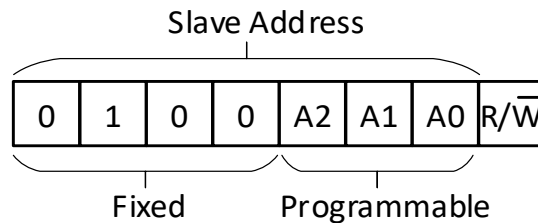
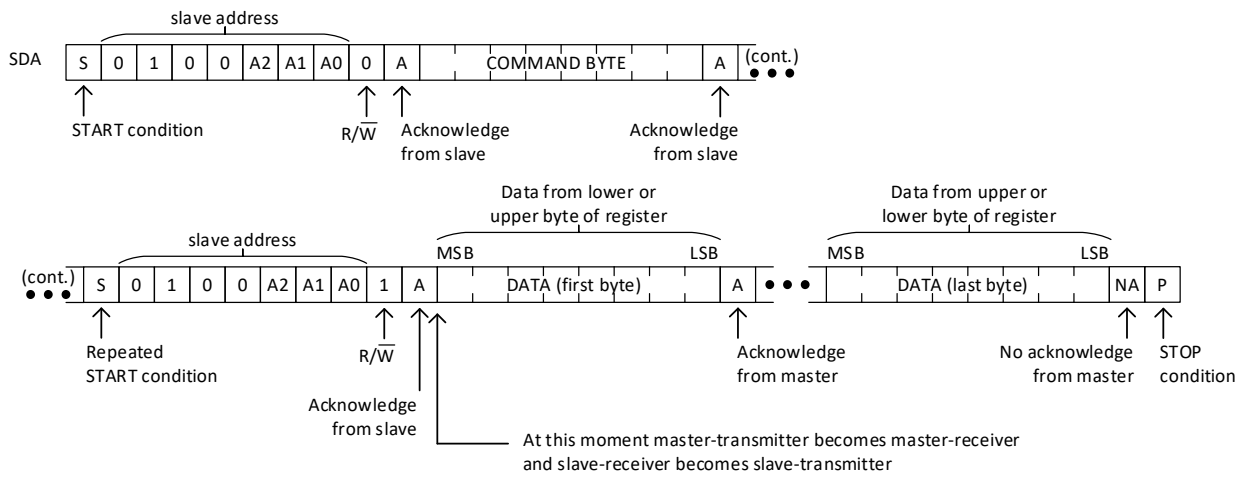

Figure 7-7. NCA9555B device address
Figure 7-11. Read from registers
Figure 7-7 shows the address byte of the NCA9555B. The last bit of the target address defines the operation (read or write) to be performed. A HIGH (1) selects a read operation, while a LOW (0) selects a write operation.
Data is transmitted to the NCA9555B by sending the device address and setting the least significant bit to a logic 0 (see Figure 7-7). The command byte is sent after the address and determines which register will receive the data following the command byte.
In order to read data from the NCA9555B, the bus master must first send the NCA9555B address with the least significant bit set to a logic 0 (see Figure 7-7). The command byte is sent after the address and determines which register will be accessed. After a restart, the device address is sent again, but this time the least significant bit is set to a logic 1. Data from the register defined by the command byte will then be sent by the NCA9555B (see Figure 7-11, Figure 7-12 and Figure 7-13). Data is clocked into the register on the rising edge of the acknowledge clock pulse. After the first byte is read, additional bytes may be read but the data will now reflect the information in the other register in the pair. For example, if Input Port 1 is read, then the next byte read would be Input Port 0. There is no limitation on the number of data bytes received in one read transmission, but the final byte received, the bus master must not acknowledge the data.